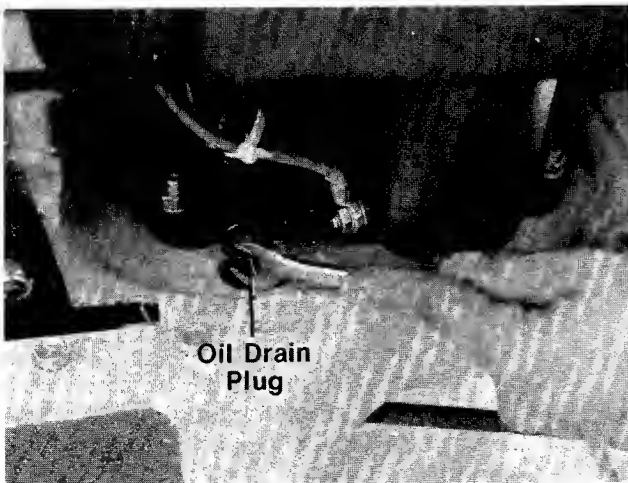

FIGURE 33.
After the first five hours of operating a new engine, drain the oil (see figure 33) from the crankcase while engine is still hot and refill crankcase with new oil; thereafter change the oil every 25 hours of operation. This procedure ensures minimum wear of engine parts. To change the oil, proceed as follows:
1. With the machine on level ground, place a suitable metal container under the oil drain plug, then remove the drain plug. See figure 33.